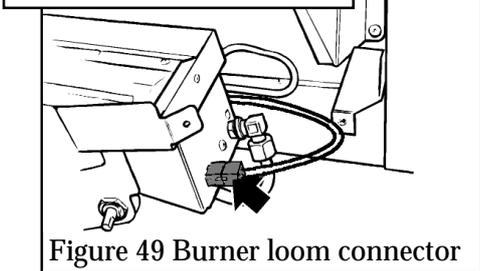

Figure 49 Burner loom connector
15.4.2 Detach the burner wiring loom connection at the right side of the burner (see figure 49).